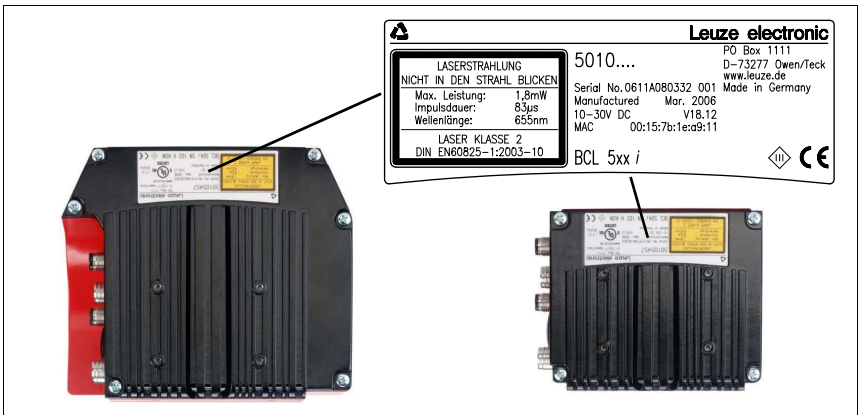

Figure 6.1: Device name plate BCL 558*i*
*The black areas in figure 6.1 are the housing base. The best read results are obtained when:*